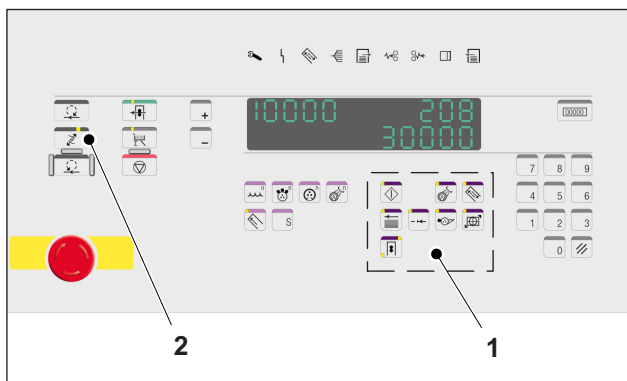

Fig. 6 Main control panel
- **Direct selection buttons** (Fig. 6/1) immediately trigger a function.
Exception: The *Control panel selection* button (Fig. 6/2) must be pressed twice to cancel the selection.